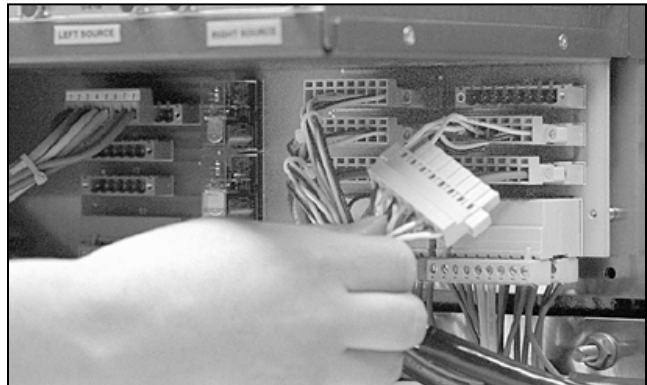

Figure 119. Installing and securing the assembly through the wire pass.
- (c) Slide the assembly through the wire pass (located in the bottom of the low-voltage enclosure.) Bolt the brackets down to the enclosure floor as shown in Figure 119.